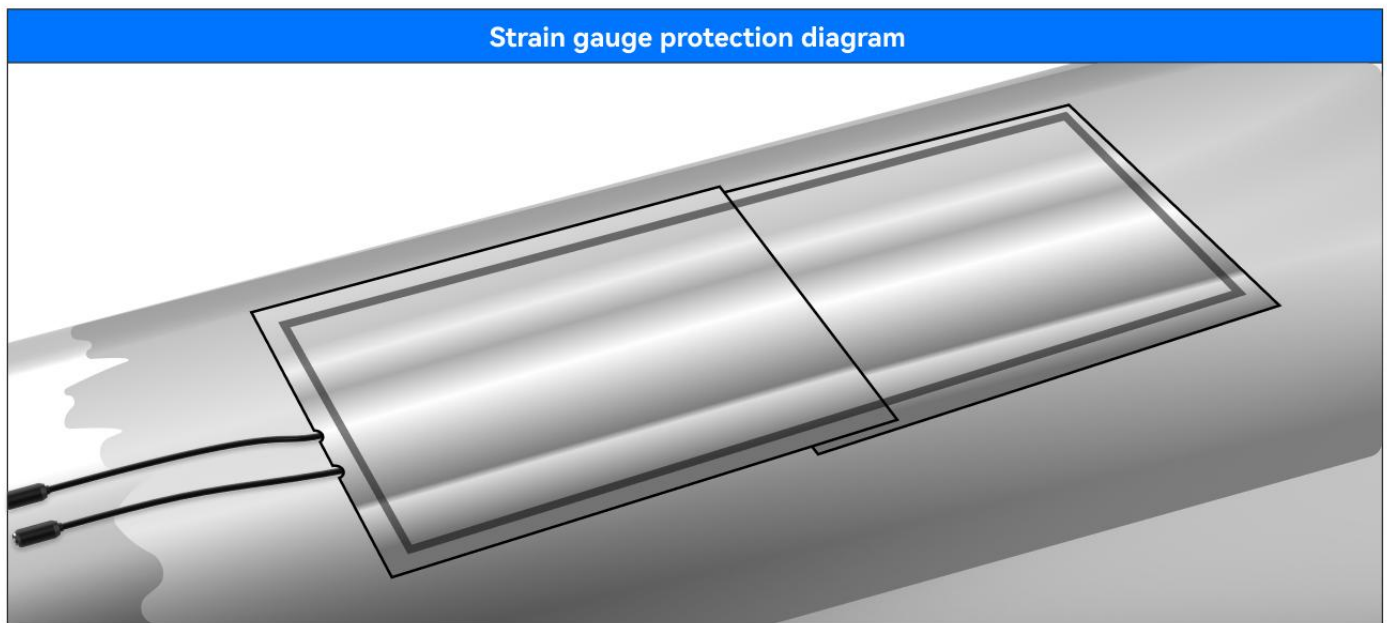

Figure 3.23
4. Cut two foil pieces from the coating kit that should be large enough to overlap each other by approximately 10mm and cover the F-coated area by at least 10mm in order to bond with the clean shaft area. Place the first piece of foil on half of the F-coated area at the other end of the connector cable. Press down and smooth the edges to create a good seal for the clean shaft area. Now, overlay the second piece of foil over the other end of the area covered by the F-coat, overlapping the first piece of foil and the coat. Press the foil onto the shaft and smooth it so that it tightly surrounds the cable and forms a good seal, as shown in Figure 3.23.